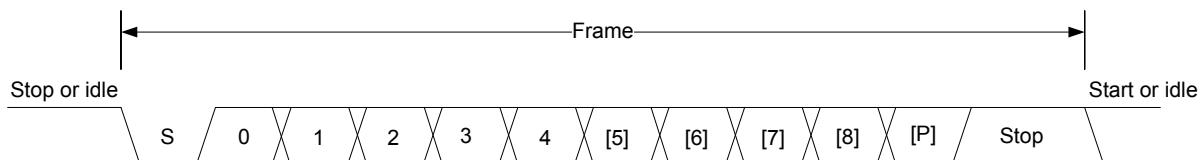

Figure 20.2. USART Asynchronous Frame Format
The frame format used in asynchronous mode consists of a set of data bits in addition to bits for synchronization and optionally a parity bit for error checking. A frame starts with one start-bit (S), where the line is driven low for one bit-period. This signals the start of a frame, and is used for synchronization. Following the start bit are 4 to 16 data bits and an optional parity bit. Finally, a number of stop-bits, where the line is driven high, end the frame. An example frame is shown in Figure 20.2 USART Asynchronous Frame Format on page 565.